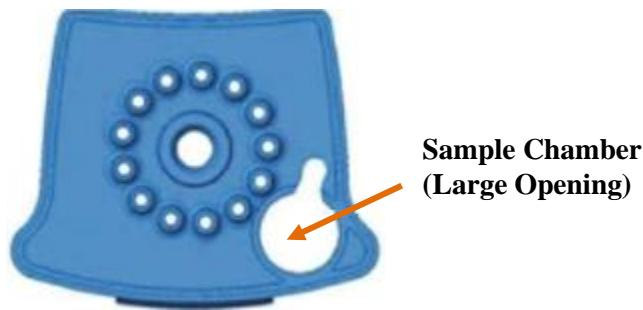

Figure 13. Xpert Omni SARS-CoV-2 Cartridge (Top View)
7. To transfer the sample to the cartridge, squeeze the top bulb of the transfer pipette **completely until the top bulb is fully flat** to empty the contents of the pipette ($300 \mu\text{L}$) into the large opening (Sample Chamber) in the cartridge shown in Figure 13. Some liquid may remain in the overflow reservoir. Dispose of the used pipette.
4. Using a clean transfer pipette, transfer one draw of the external control sample (300 µL) into the large opening (Sample Chamber) in the cartridge shown in Figure 13.